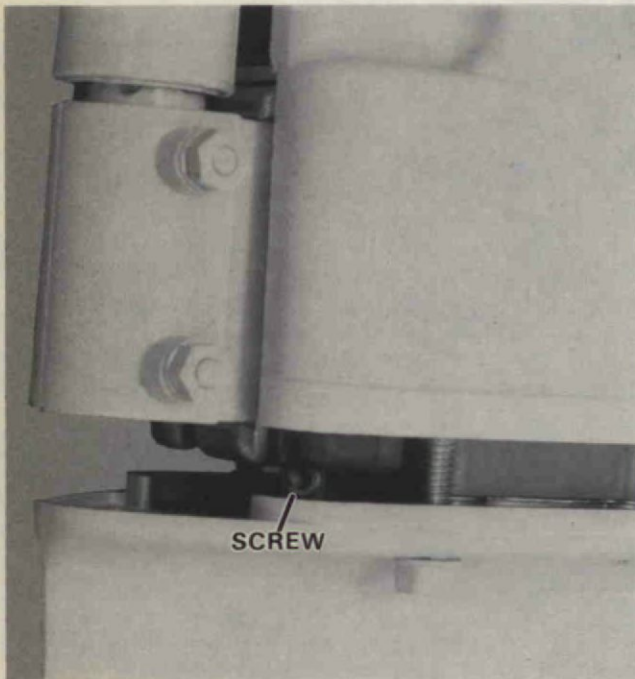

Figure 18. Removing Gear Housing.
3. Pull gear housing down and remove screw joining gear shift rods. Figure 18.